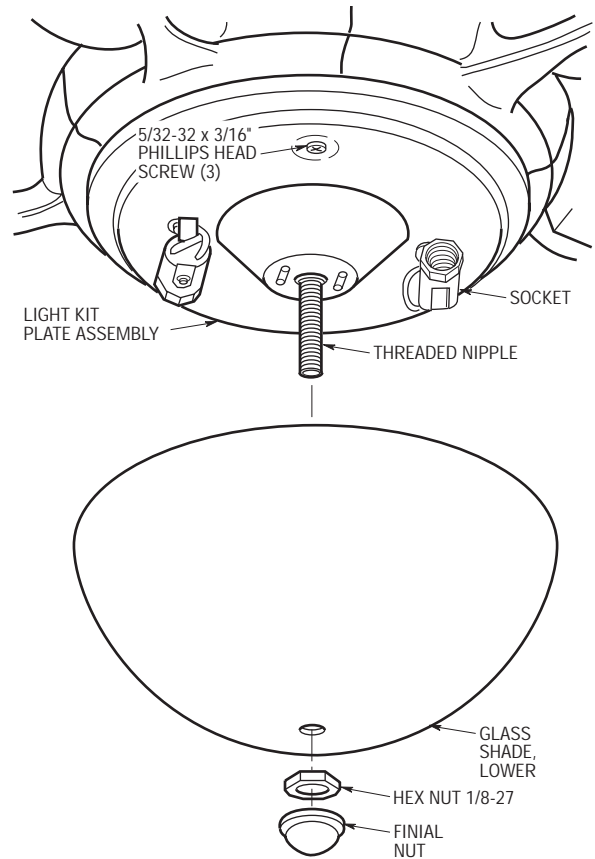

Figure 20A
- 33. Secure the light kit plate assembly to the light kit adapter assembly by threading three 5/32-32 x 3/16" phillips head screws (supplied) into the threaded holes in the adapter assembly (Figure 20A).
- 34. Install two candelabra base lamps in the sockets of the light kit adapter plate (Figure 20A):
- 35. Position the glass shade over the threaded nipple in the light kit plate assembly (Figure 20A). Seat the glass shade evenly over the plate assembly and securely install the hex nut and finial nut (supplied) on the threaded nipple.